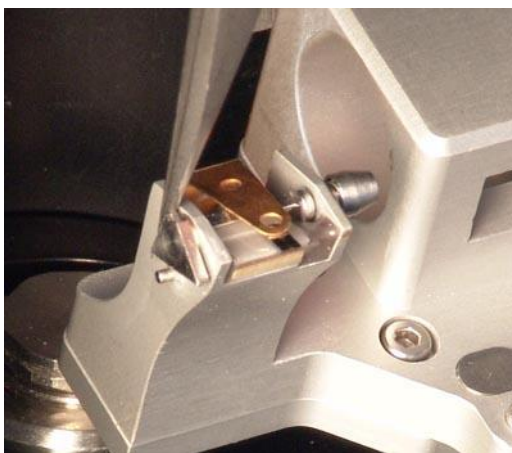

Fig. 6-20
6. Once the probe is in the working position, clamp it with the clip by turning the lever counterclockwise to extreme position with the tweezers (see Fig. 6-20).